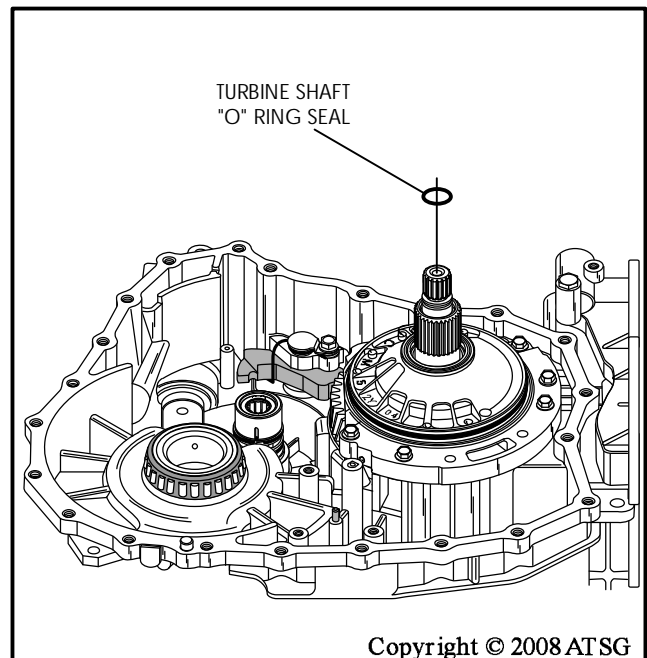

Figure 43
33. Remove the "O" ring seal from turbine shaft, as shown in Figure 43.